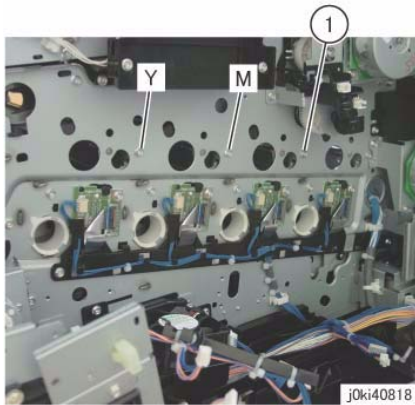

Figure 11 Remove the screw
15. Remove the screw that secures the Erase Lamp Unit (C) at the rear. (Figure 11)